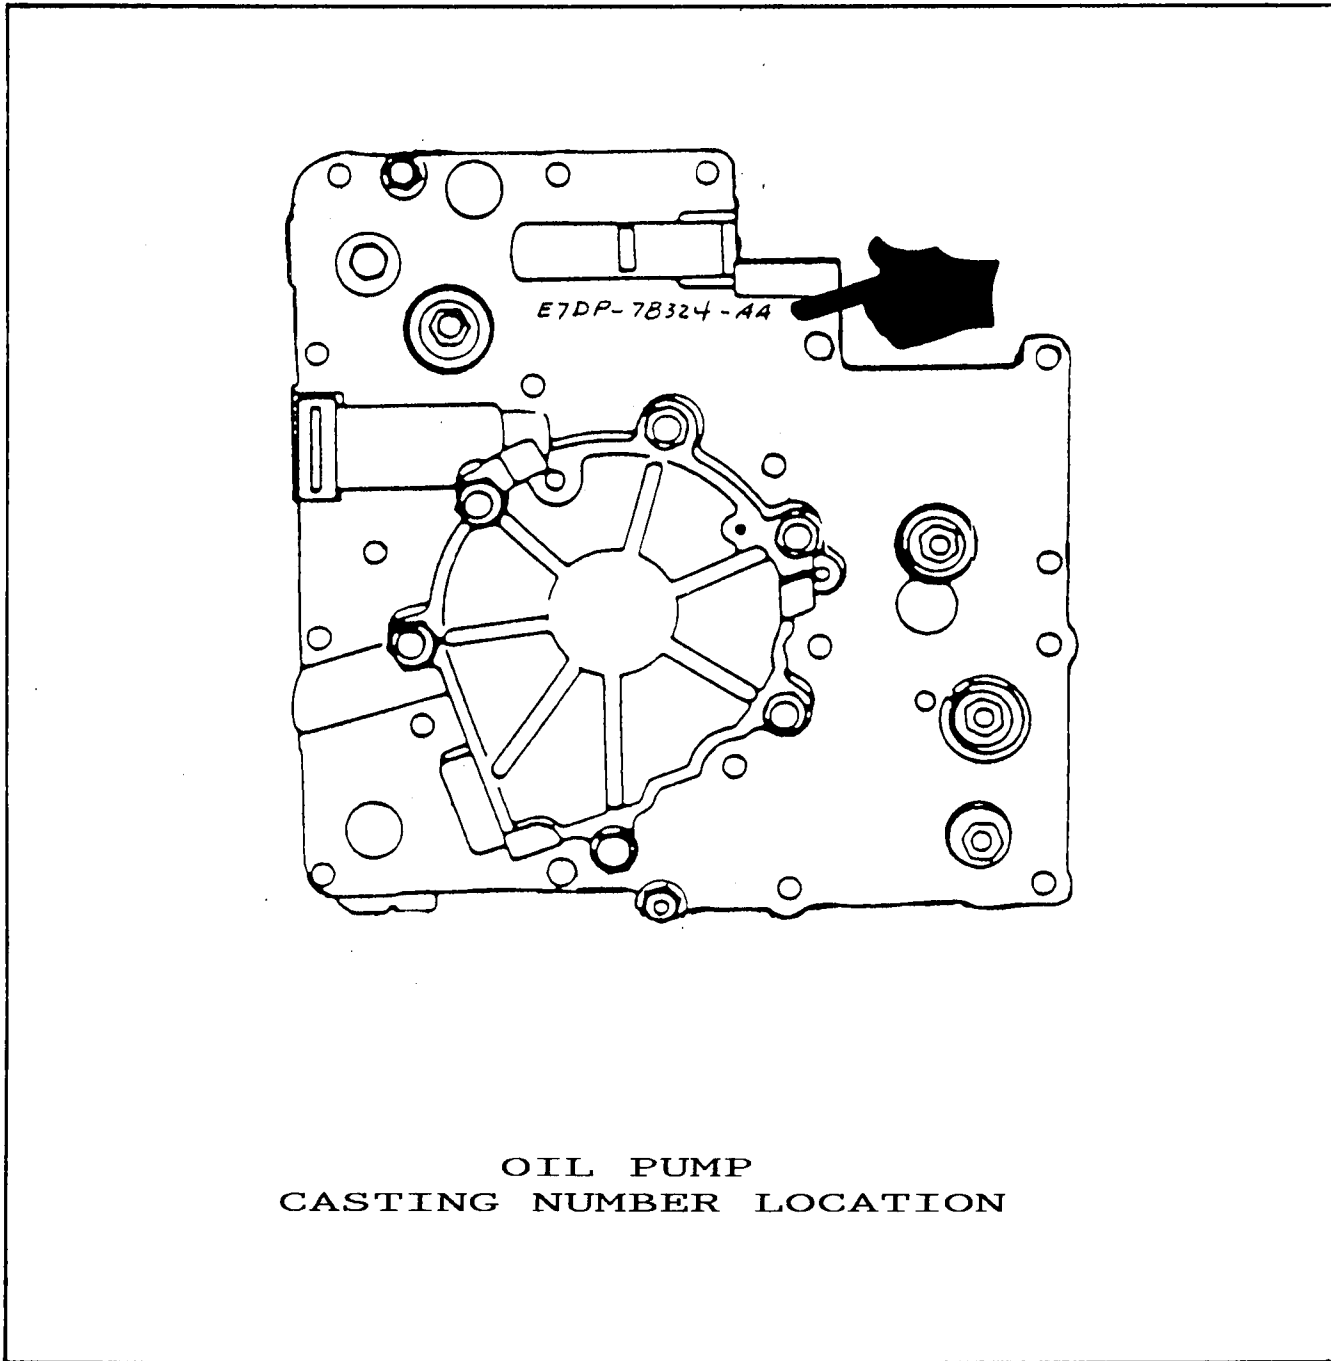

Figure 1
- (1) OIL PUMP CASTING - Must be identified by the casting number located on the pump as shown in Figure 1, and can be identified as follows: